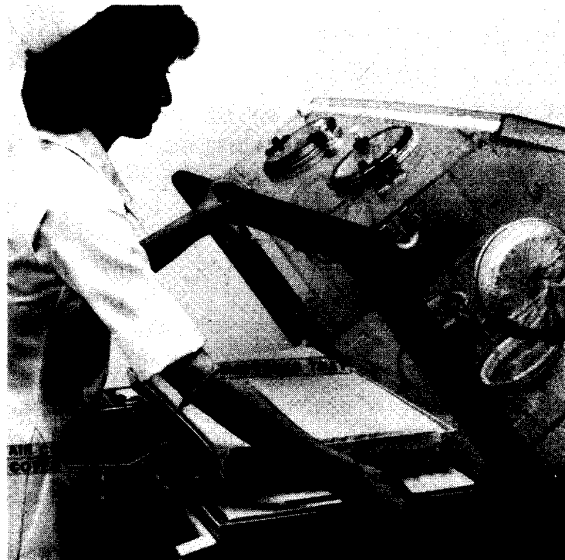

FIGURE 2.2 HOOD RELEASE OPERATION
6. CHECK HOOD HINGE AND LATCH OPERATION for proper positioning. Using the Hood Lift handle, slowly tilt the Hood back until the Hood Latch engages. Close the Hood by releasing the Hood Latch as shown in Figure 2.2.